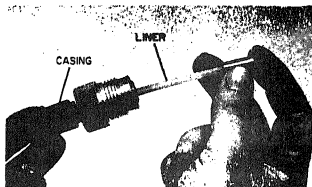

Figure 12. Installing Casing Liner
a. Insert liner (Fig. 12) into casing assembly when aluminum wire is to be used.